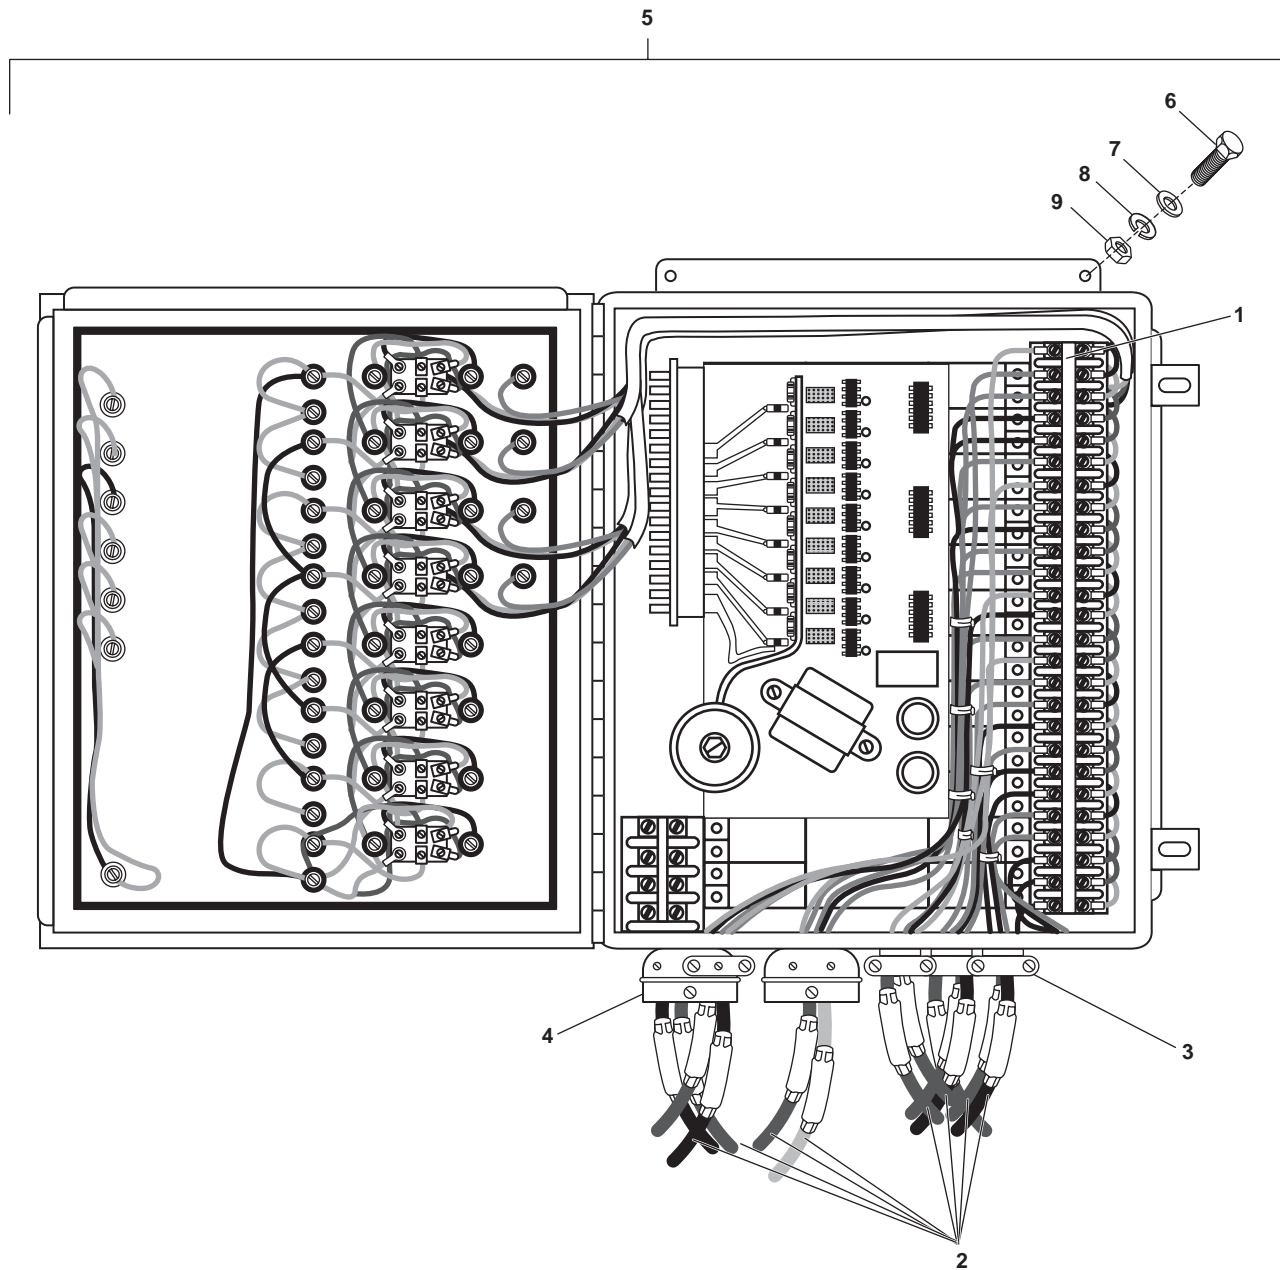

Figure 2. Internal Components of the Navigation Lighting Panel
3. Use a multimeter to check for voltage at terminal block 1 (figure 2, item 1). If voltage is present, ensure that the proper circuit breaker is set to OFF, locked out, and tagged out (FM 55-502). If no voltage is present, continue with the procedure.
4. Label and remove the wiring (figure 2, item 2) from the input side of terminal block 1 (figure 2, item 1).
5. Loosen the two screws (figure 2, item 3) on the strain relief clamps (figure 2, item 4) and remove the wiring (figure 2, item 2) from the navigation lighting panel (figure 2, item 5).
6. Remove the four bolts (figure 2, item 6), four flat washers (figure 2, item 7), four lockwashers (figure 2, item 8), and four nuts (figure 2, item 9) from the navigation lighting panel (figure 2, item 5). Discard the lockwashers.
7. Remove the navigation lighting panel (figure 2, item 5) from the bulkhead.
1. Install the navigation lighting panel (figure 2, item 5) on the bulkhead and secure it with the four bolts (figure 2, item 6), four flat washers (figure 2, item 7), four new lockwashers (figure 2, item 8), and four nuts (figure 2, item 9).
2. Install the wiring (figure 2, item 2) through the strain relief clamps (figure 2, item 4) and in the navigation lighting panel (figure 2, item 5).
3. Connect the wiring (figure 2, item 2) to the input side of terminal block 1 (figure 2, item 1) using the labels from step 4 of Removal as a guide. Remove the labels.
4. Tighten the two screws (figure 2, item 3) on the strain relief clamps (figure 2, item 4). CLOSE the navigation lighting panel door (figure 1, item 3).